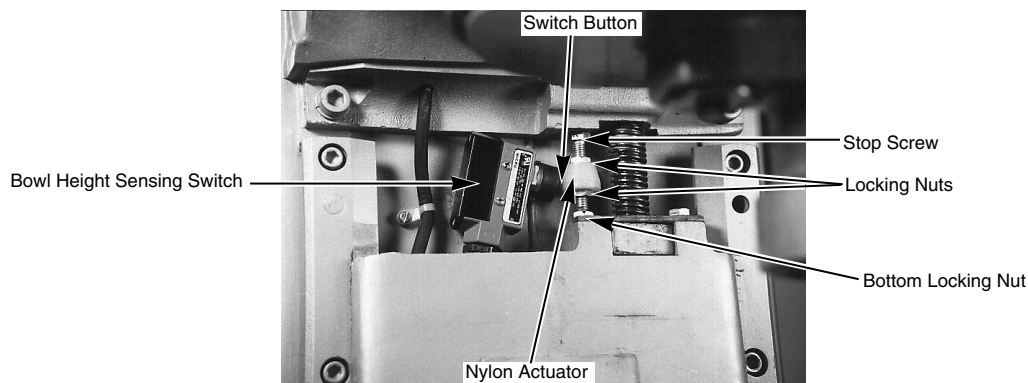

Fig. 8
- Loosen the bottom Locking Nut (Fig. 8), and turn the Stop Screw counterclockwise to increase the clearance or clockwise to decrease the clearance.